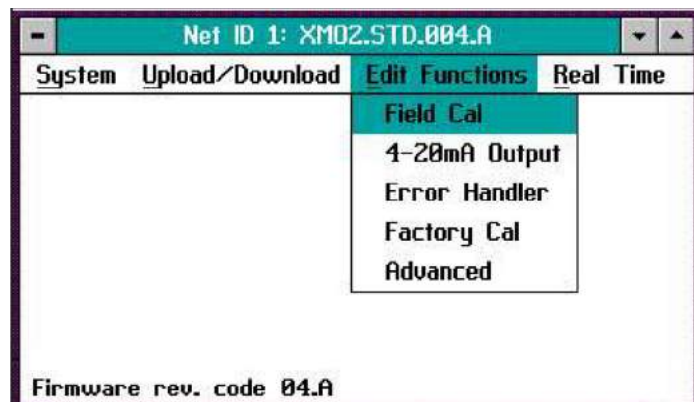
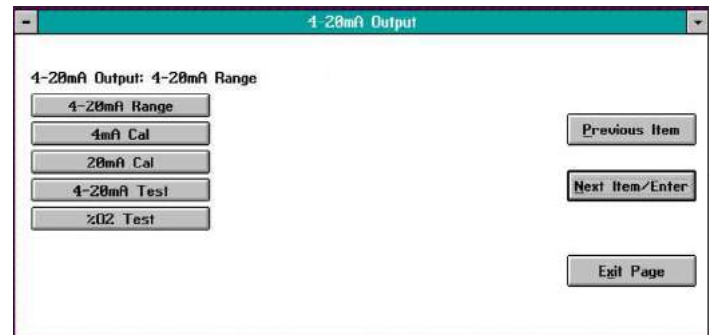

Figure 12: Edit functions menu
Figure 27: 4-20 mA output window
2. From the Instrument window, pull down the Edit Functions menu, as shown in *Figure 12 on page 19*.
To access the XMO2 calibration, pull down the Edit Functions menu from the Instrument window. This menu consists of the five commands displayed in *Figure 12* below. To access any of the commands, simply select it from the menu.
The XMO2 Calibration Sheet shipped with the unit lists the 4-20 mA analog output range that was set at the factory. IDM enables you to change this range via the *4-20mA Output* option. After you click on the *4-20mA Output* button from the *Edit Functions* menu (Figure 12 on page 19), a window similar to Figure 27 below opens. Clicking on any option opens the window for that option, while clicking on *Next Item/Enter* opens the menu listed on the status line above the options.
Note: Clicking on the Next Item/Enter button selects the option listed on the status line above the option buttons (*4-20mA Range* in Figure 27 above). The option listed on the status line in any window is the option that was chosen the last time that menu was used.